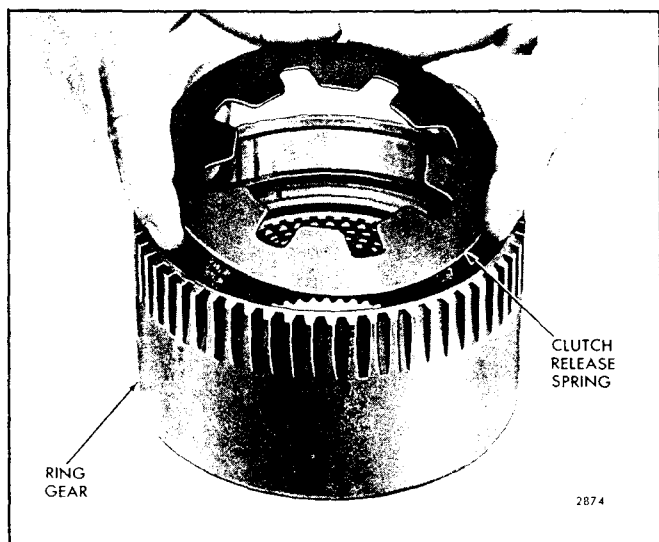

Fig. 57 - Installing Forward Clutch Release Spring in Ring Gear
- g. Place the forward clutch release spring in the ring gear and rest it on the snap ring (spacer), with the concave side of the release spring facing down as shown in Fig. 57, and center it in the ring gear.